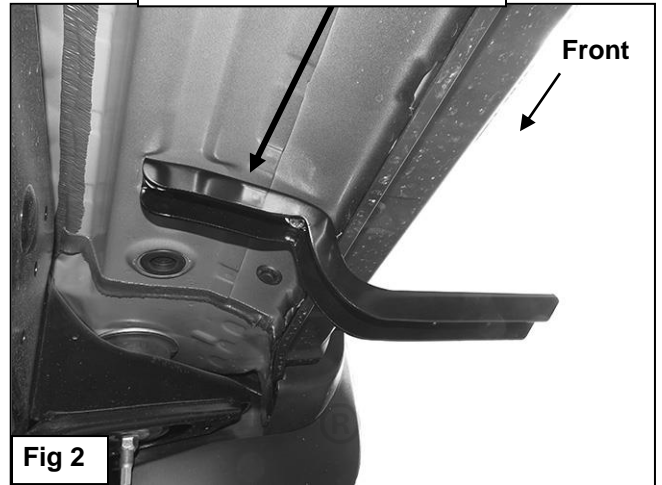

Fig 2
- Starting on the passenger side of the vehicle, remove the existing (2) factory bolts, (or plugs), located by the front tire opening, **(Figure 1)**. Select (1) Front Mounting Bracket. Hold the Front Bracket up to the bottom of the body panel and against the pinch weld. Bolt the bracket to the factory threaded holes with the included (2) 8mm x 30mm Hex Bolts, (2) 8mm Lock Washers and (2) 8mm Flat Washers, **(Figure 2)**. Do not tighten hardware at this time.